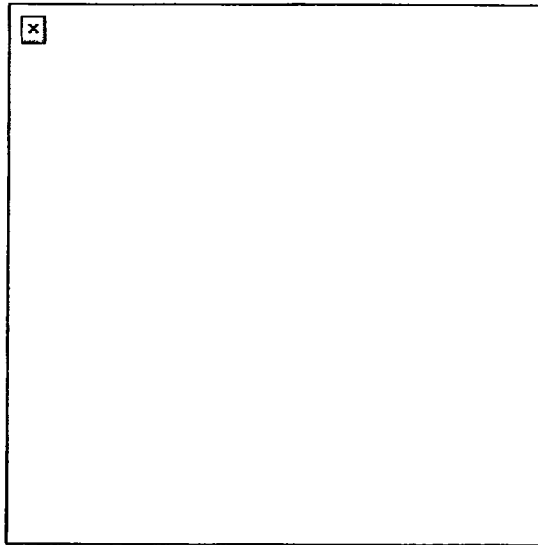

Figure 8. Installation of ammunition can bracket.
5. Attach the ammunition can mounting bracket assembly (Figure 8).